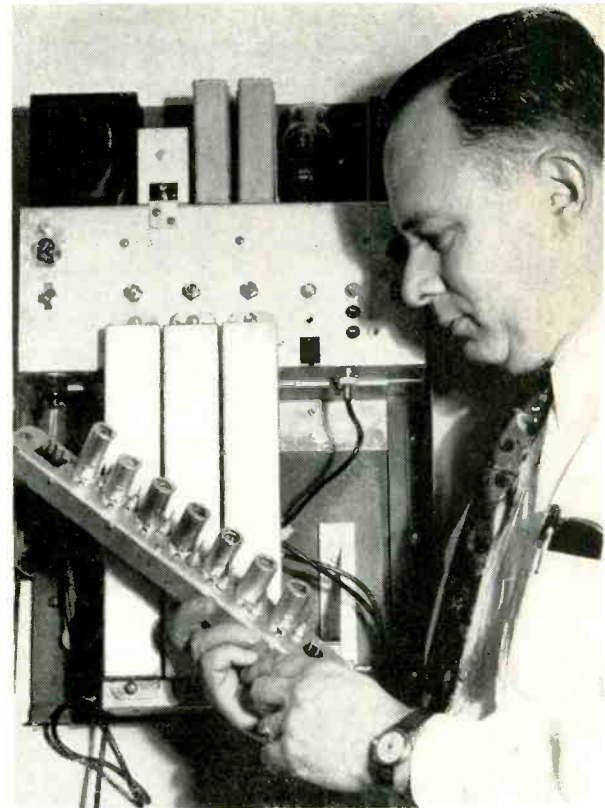

Fig. 6—Pre-tuned booster amplifier, as shown in Fig. 3, with cover removed so adjustments can be made.
is sufficient energy to operate the least sensitive television receiver through the 30 db. attenuation in each outlet. (Fig. 3 with cover on, and Fig. 6 with cover removed, show the booster amplifier.)
*Solution 5.* A screw driver gain control is provided over each booster amplifier strip (see Fig. 6) so that the signal level for each station can be adjusted equal. Booster amplifiers are removable with Jones connectors. This permits quick service of amplifiers which are out of adjustment.